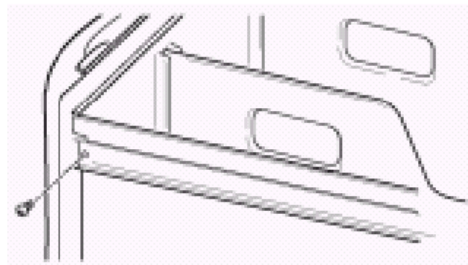

Fig. 2-8
11. Pull both drawer slides out and reassemble the drawer to the drawer slides with the two (2) Phillips head screws. (*Fig. 2-8*) Use of the two (2) dividers is optional. Close the drawer.